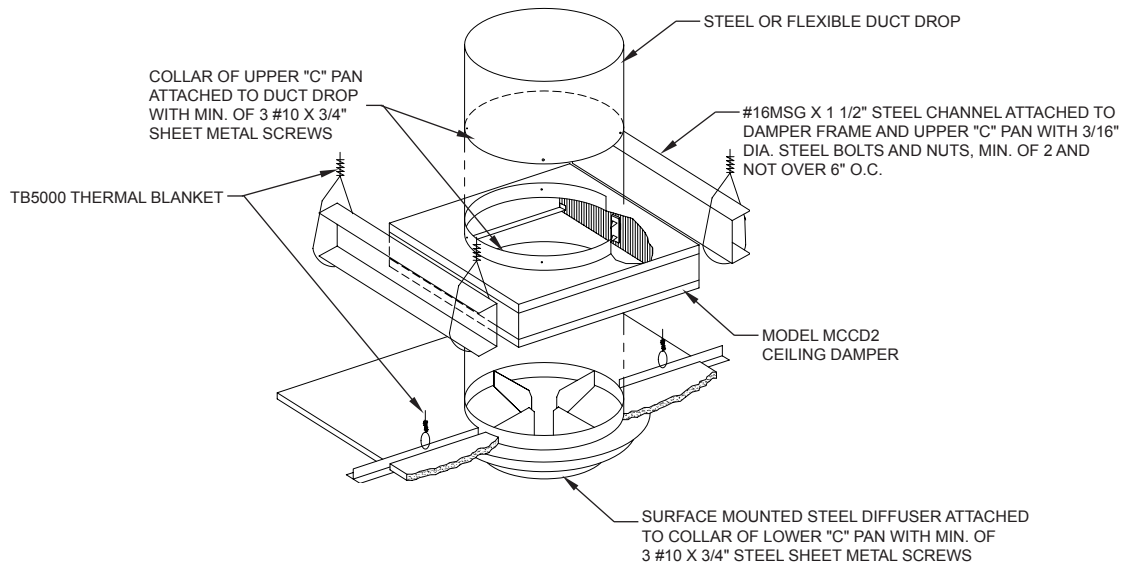

FIG. 7
2. The damper shall be supported by two steel channels (See FIG. 7), one channel on each side of damper perpendicular to duct direction (See FIG. 7). Each channel shall be approximately 12" longer than the width of the duct, but extending beyond the location of the structural members above, and be hung near each end by a vertical, (not splayed), hanger wire, (See FIG. 7), from the structural members. Each channel shall be bolted to the upper end of damper frame and the "C" pan, with the steel bolts and nuts (See FIG. 7). Minimum of two bolts and spaced not more than 6" O.C. shall be used.
3. The collar of the upper "C" pan shall be attached to the round duct drop with a minimum of three steel screws (See FIG. 7), uniformly spaced.